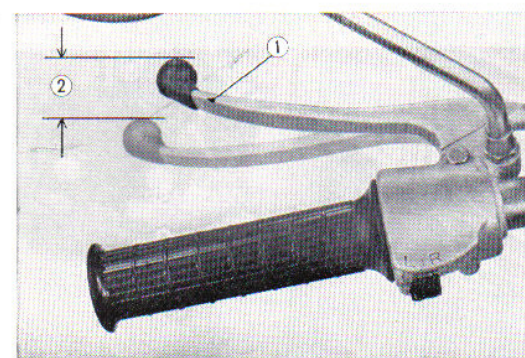

Fig. 6.22 Clutch lever play
a. The clutch lever play is the distance from the normal lever condition to the position in which the clutch begins to disengage. The proper clutch lever play is 1.0 to 2.5 cm. (0.4~1.0 in) (Fig. 6.22)